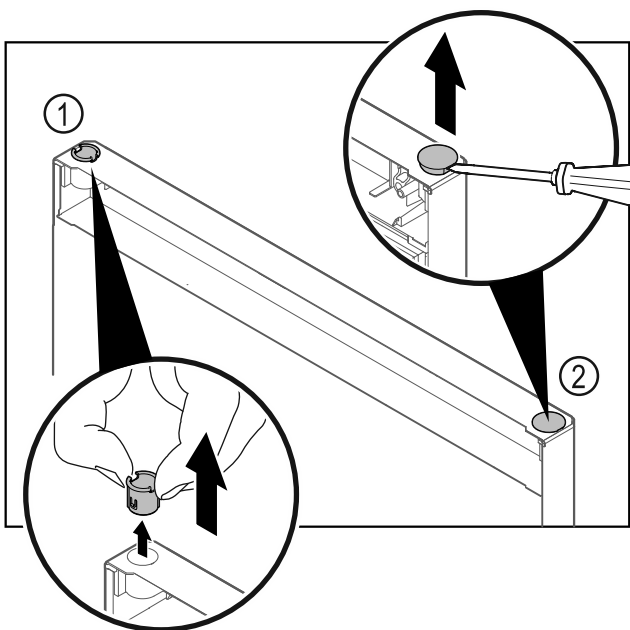

Fig. 28 Fridge compartment door
- ▶ Pull out the hinge bushing Fig. 28 (1) with your fingers.
- ▶ Carefully lift the cover plug Fig. 28 (2) with a slotted screwdriver and pull it out.